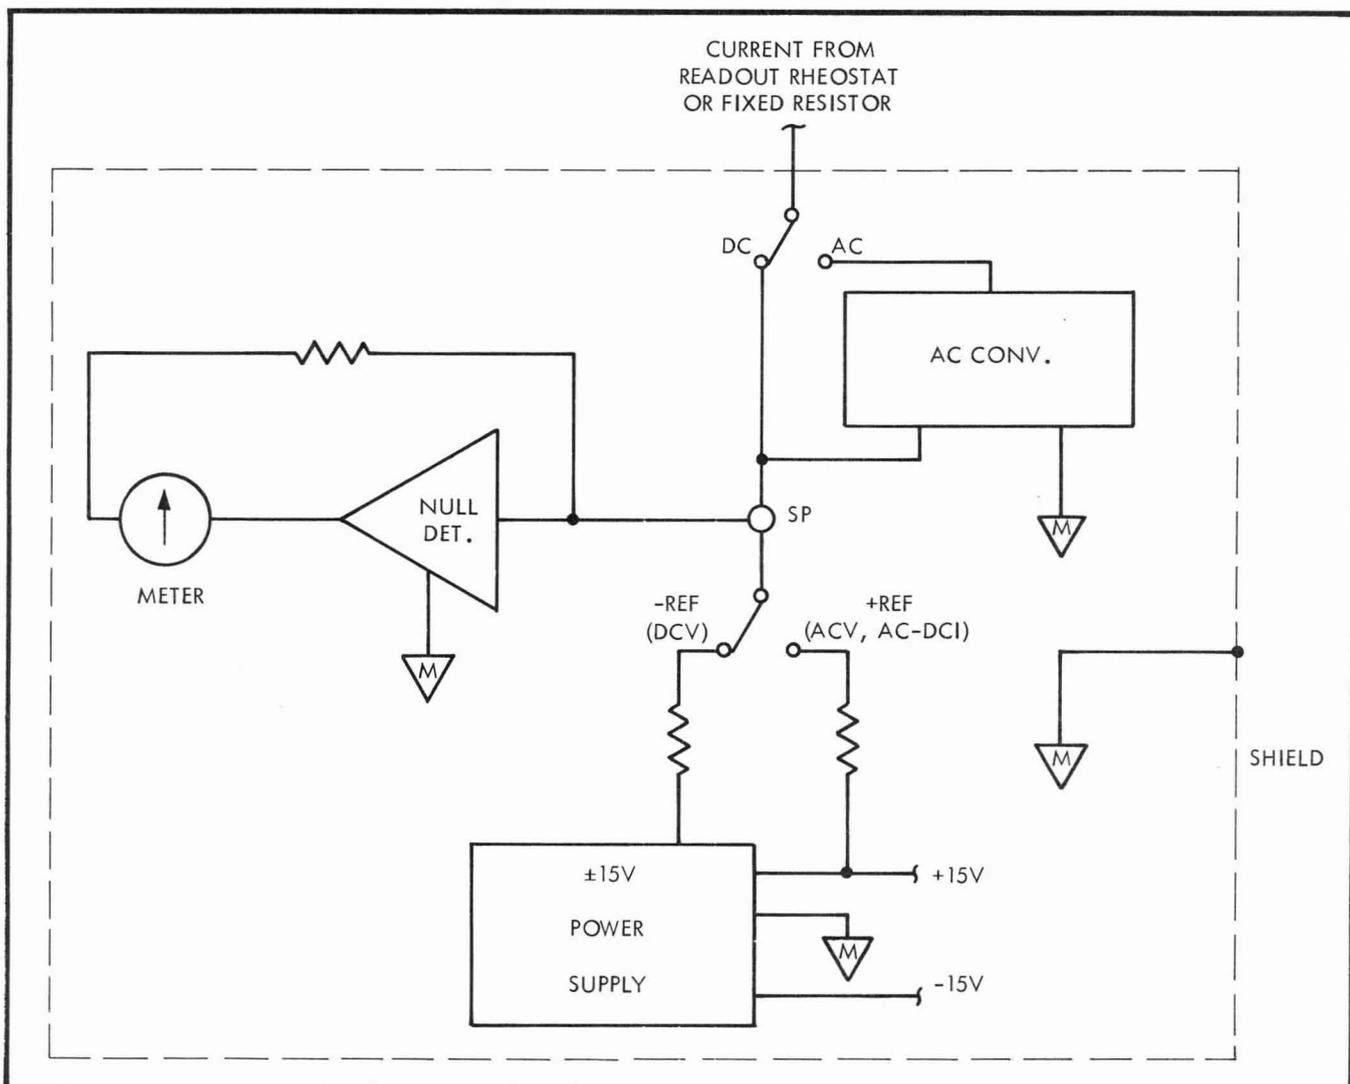

Figure 3-4. MEASUREMENT SECTION FUNCTIONAL BLOCK DIAGRAM
**3-27. GENERAL.** The Measurement Section is composed of the AC Converter, Null Detector, meter, and the  $\pm 15$  Volt Power Supply. The relationship between these circuits is shown in Figure 3-4. Also housed in the shielded Measurement section is the Readout Rheostat, Readout Shunt, Shunt Compensator, a fixed value shunt, and a fixed value resistor. The front panel FUNCTION, FREQUENCY, and readout switches place the above listed components into particular arrangements for voltage or current operation of the instrument. These voltage or current circuit arrangements provide a current, through either the Readout Rheostat or fixed resistor, that is proportional to the output voltage or cur-
rent of the instrument to the measurement circuitry. If this proportional current is dc, it is applied directly to the summing point (SP, see Figure 3-4). In the case of an ac current, the AC CONVERTER converts it to a proportional dc current and applies it to the summing point. The sum of the proportional current and the current from the reference must equal zero in order for the meter to indicate a null (zero position on meter scale). A sum different from zero at the summing point is amplified by the Null Detector and displayed on the meter. The complete Measurement Section is housed in a shield insulated from the chassis of the instrument. The Measurement Section common (Measurement Common) is connected to this shield. When the instrument is operated in the voltage mode, the measurement common, and consequently the shield, is connected to the source common (black front panel terminal). When operated in the current mode, the measurement common shield floats on the positive output side (red terminal).